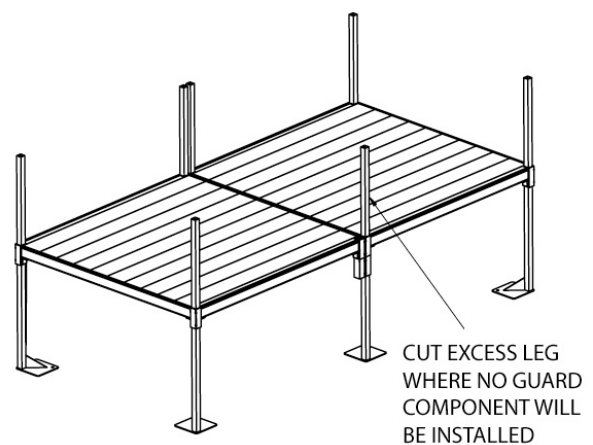

FIG. 8
- 1.7.7 At this point there will be one or more legs that extend above the platform deck and will **not** be used to attach a guard, filler section or corner post. Mark these legs at the top of the corner pocket and cut the leg off at or slightly below the mark (FIG. 8). **Note:** The appearance and quality of the cut is not critical since these areas will be covered with a plate in later steps. What is critical is that the leg not stick up past the deck far enough to interfere with the plate when it is installed.